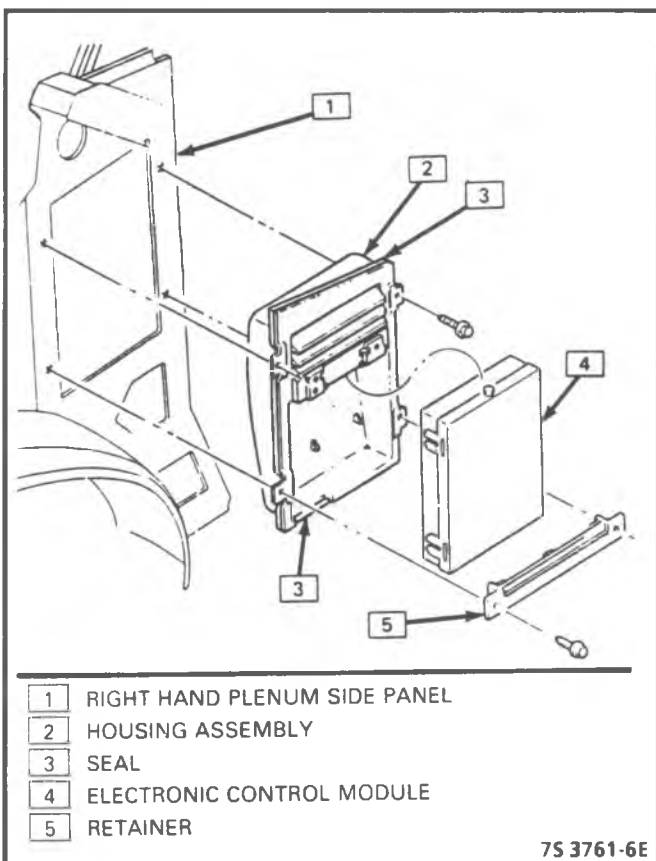

Figure 3-75 - Electronic Control Module (M)
3. ECM. Refer to Figure 3-75 for servicing the ECM.